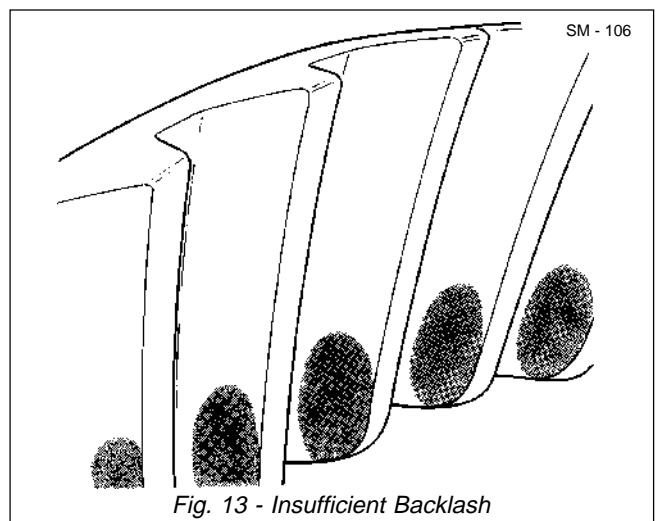

Fig. 13 - Insufficient Backlash
b. If the contact area is on the inner side of the ring gear teeth, see Fig. 13, move ring gear away from pinion by turning bearing adjusters equal amounts until the proper bearing pattern is obtained.